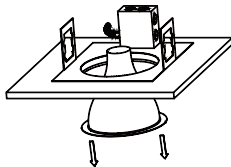

Fig. 2
- Step 2: If existing lamp and trim are present, remove from ceiling or move it out of the way as it will not be needed during installation. Measure the ceiling opening to make sure the edge of the luminaire will cover the entire hole and still sit firmly in the ceiling before proceeding (Fig 2).